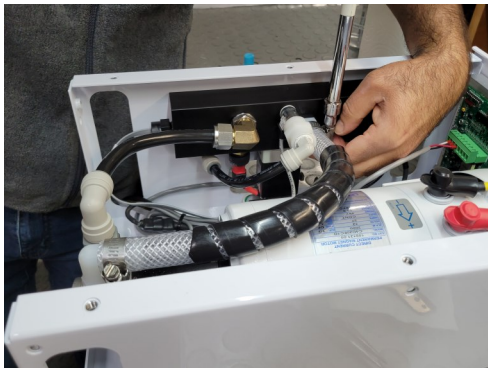

Figure 30
5.2) Mount the Pump Head onto the new Motor and reconnect all plumbing to the Pump Head (See Figure 30).